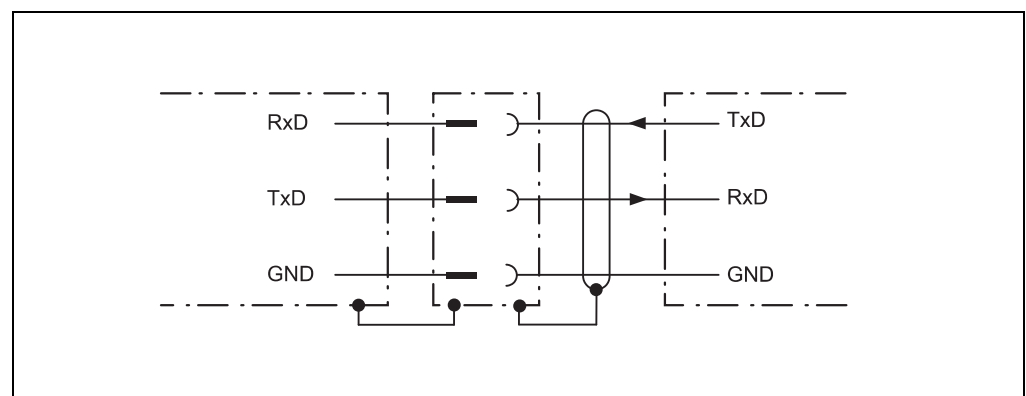

Fig. 17: Wiring the RS232 interface
- Connect the PC (serial interface) to the NAV310 (see fig. 17 on page 34)